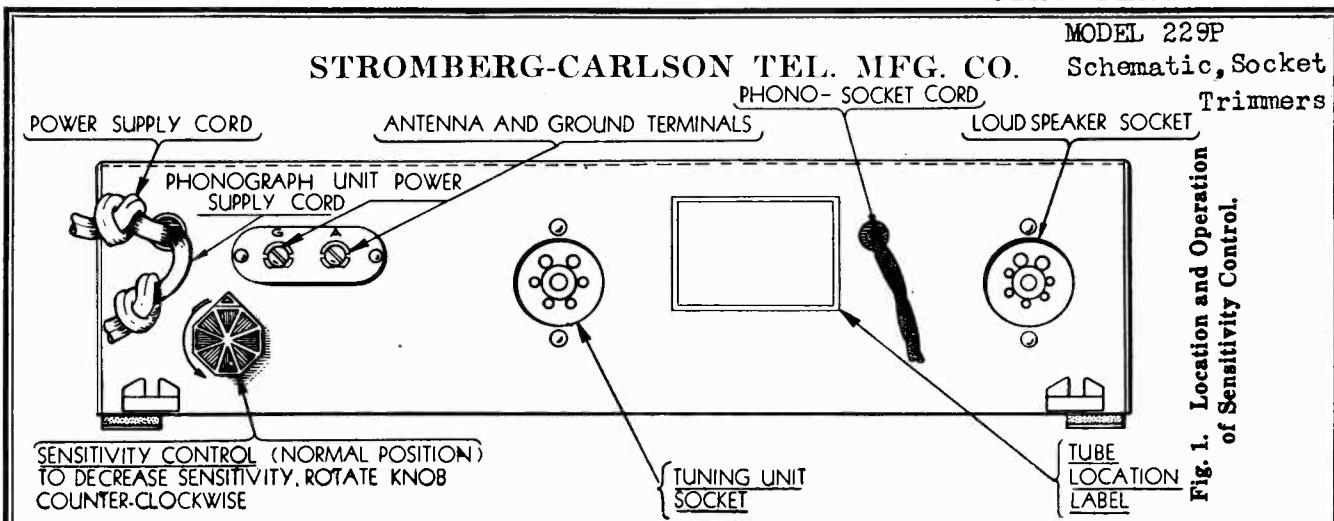

Fig. 1. Location and Operation of Sensitivity Control.
In making any alignment adjustments, always adjust the test oscillator's output voltage to the minimum value where a good alignment may still be obtained. Never attempt to make any alignment adjustments using a strong signal. Before proceeding with the alignment of any circuits in these receivers be sure that the "Off-On-Tone" control knob is set for maximum treble response (position where knob turns "on"). Figure 1, shows the location of all the aligning capacitors in these receivers.
- Now, noting from Figure 1, the aligning capacitors for the first and second I. F. transformers, align the I. F. circuits in the following manner: